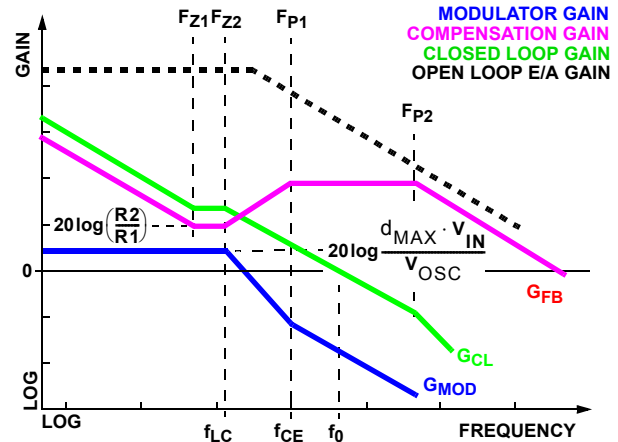

FIGURE 10. ASYMPTOTIC BODE PLOT OF CONVERTER GAIN
Figure 10 shows an asymptotic plot of the DC/DC converter's gain vs frequency. The actual modulator gain has a high gain peak dependent on the quality factor (Q) of the output filter, which is not shown. Using the above guidelines should yield a compensation gain similar to the curve plotted. The open loop error amplifier gain bounds the compensation gain. Check the compensation gain at F_{P2} against the capabilities of the error amplifier. The closed loop gain, G_{CL} , is constructed on the log-log graph of Figure 10 by adding the modulator gain, G_{MOD} (in dB), to the feedback compensation gain, G_{FB} (in dB). This is equivalent to multiplying the modulator transfer function and the compensation transfer function and then plotting the resulting gain.